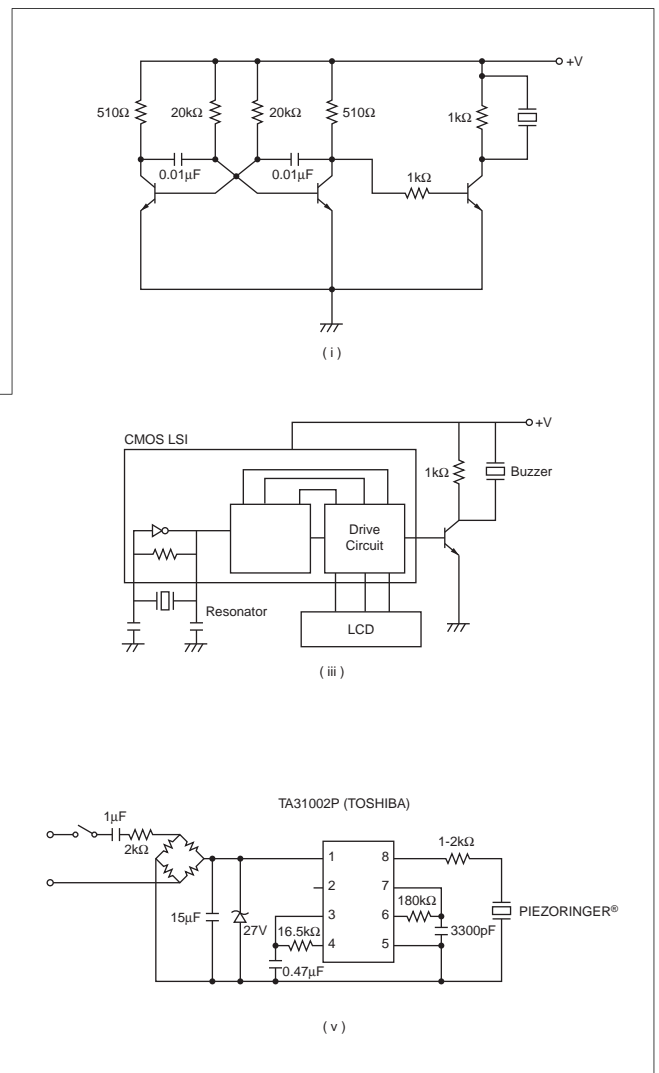

Fig. 6 Examples of the external drive circuits
This method produces sound by driving the piezoelectric diaphragm with electric signals supplied from an external oscillating circuit such as a multivibrator. Using this method, the piezoelectric buzzer can work as a speaker. In this method, a mechanical oscillation Q_m of the piezoelectric diaphragm is damped properly to provide a wider frequency band of the sound pressure. This is applied to a switching sounds of home electric appliances, key-in sounds of OA equipment, alarm sounds of digital watches and the multiple sounds like those used in electronic games. This method is also applied to the ringers, transmitters, receivers of telephone sets, card radios and speakers of crystal TV's. Fig. 6 shows examples of the circuit to which the external drive method is applied:
- ① (i), (ii), (iii) in Fig. 6, input D.C. voltage for Piezoelectric sound components should be getting larger.
- ② (i), (ii), (iii) in Fig. 6, the resistor that is connected in parallel should be changed to a booster coil (approx. 20-50mH).